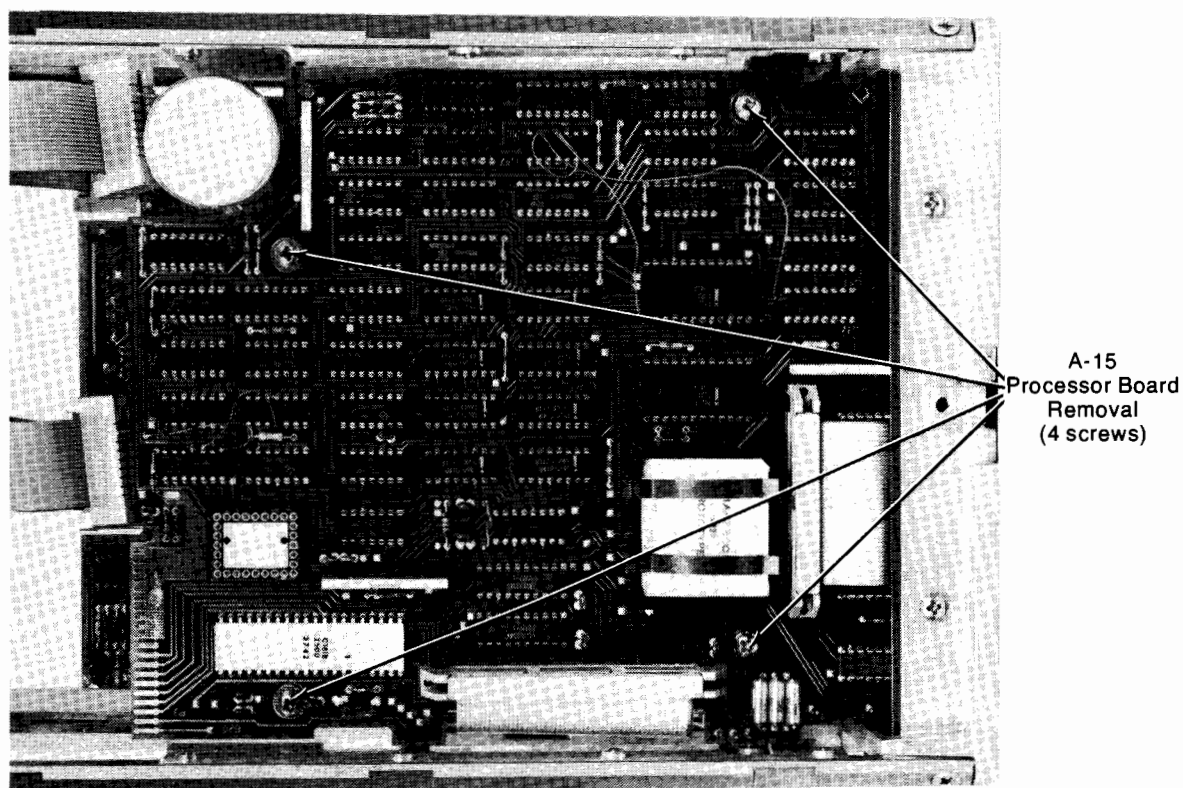

Figure 4-6: Processor Board Removal
The processor board (A-15) can be removed by removing the four (4) retaining screws as shown in Figure 4-6.